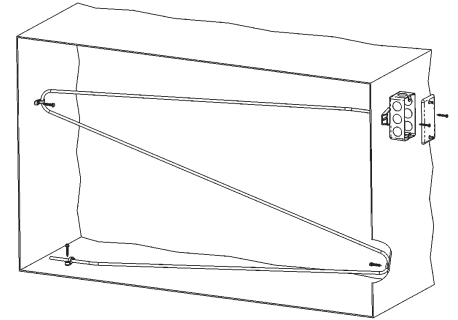
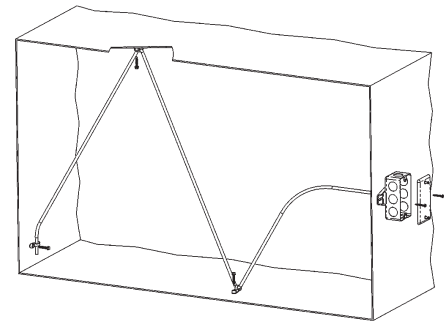

Fig. 5: Averaging Sensor Horizontal Mount. Best for Vertical Stratification.
Fig. 6: Averaging Sensor Vertical Mount. Best for Horizontal Stratification.
1. Place the sensor in the middle or top of the duct as shown in Fig. 5 or Fig. 6 so the flexible probe can enter the duct in a convenient place. Drill the probe and mounting holes as depicted for the enclosure being used.